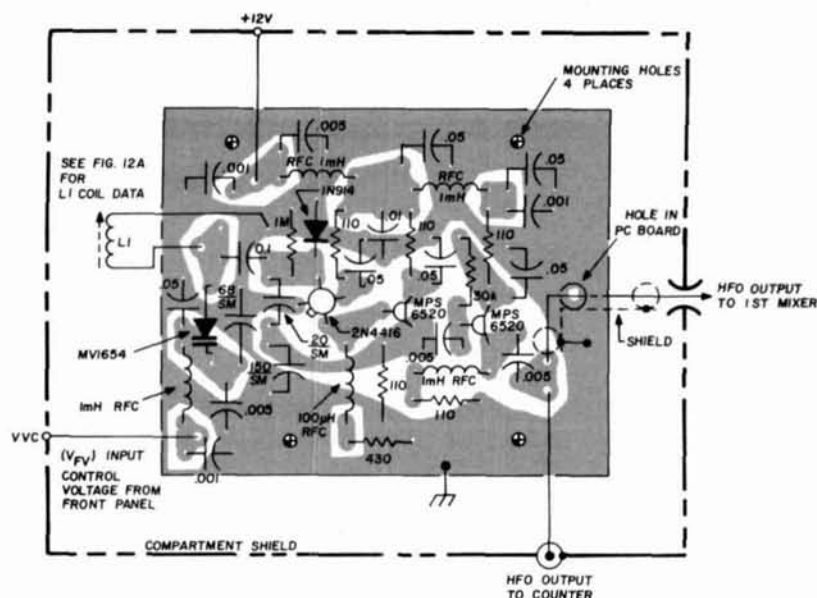
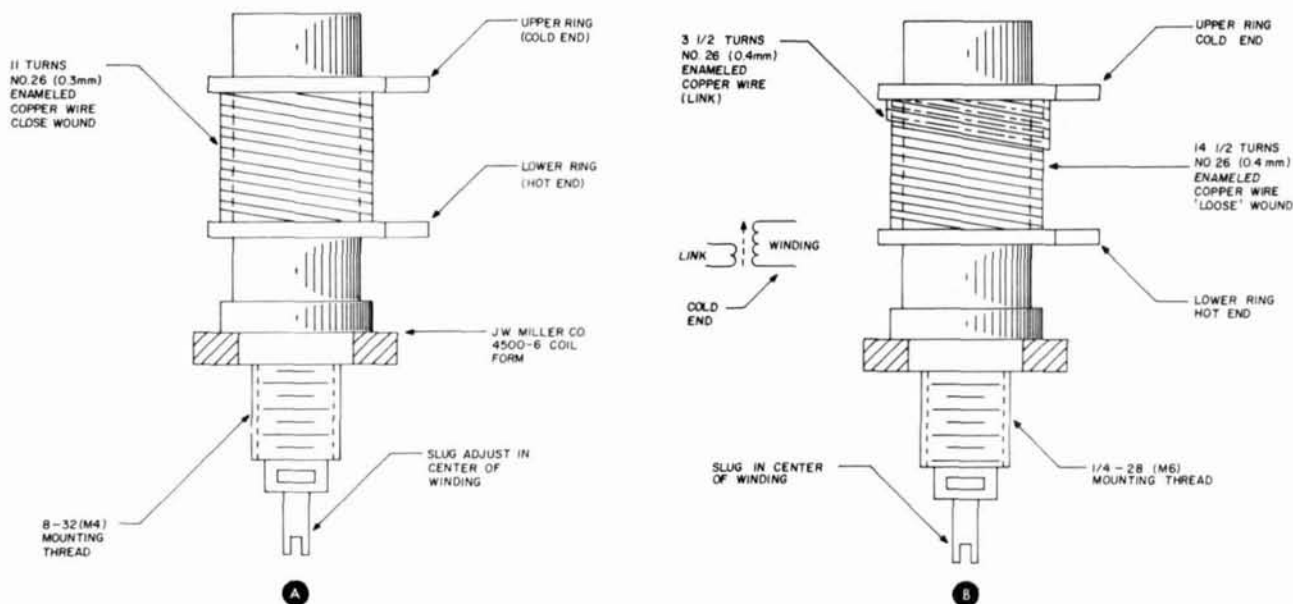

fig. 11. HFO PC board layout. Printed circuit boards for the rf portion of the receiver are available from the author for \$11.25, ppd.
fig. 12. Construction details for the hf oscillator coil, A, and rf and mixer coils, B.
**High-frequency oscillator.** The high-frequency oscillator PC component layout is shown in fig. 11; fig. 12 shows the winding and coil data. As discussed in reference 3, a variety of LC, varactor-diode combinations are possible for this construction. Provisions exist for mounting two varacaps back-to-back on the board, and space is available for the addition of an extra shunt capacitor. The HFO output signal to the mixer should have the shield terminated on the HFO board and should be unterminated at the mixer input. Note that the board should be *well-grounded* to the chassis. Since the  $V_{FV}$  voltage is at a dc level, there should be no need to use shielded wiring unless an alternative packaging technique required different routing of this wire.